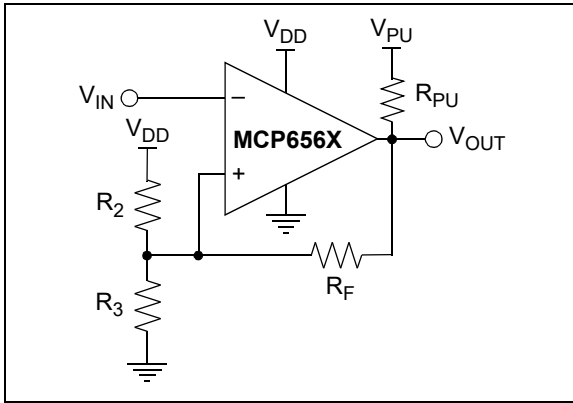
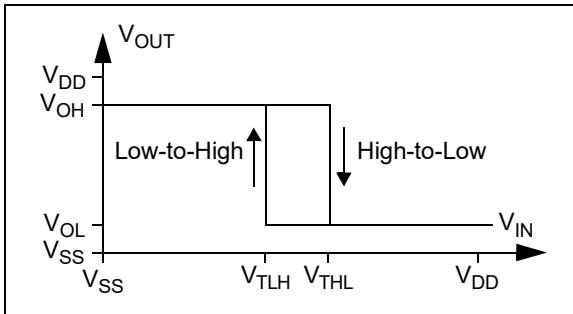
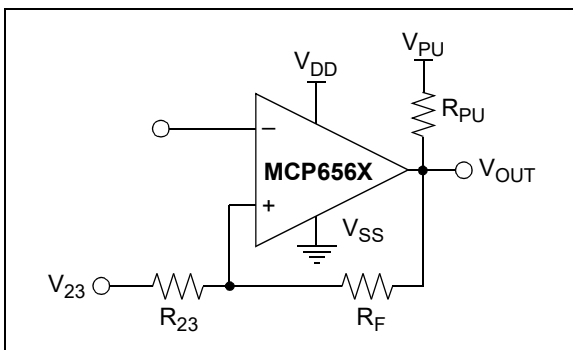

FIGURE 4-6: Inverting Circuit with Hysteresis.
FIGURE 4-7: Hysteresis Diagram for the Inverting Circuit.
FIGURE 4-8: Thevenin Equivalent Circuit.
Figure 4-6 shows an inverting circuit for single supply using three resistors. The resulting hysteresis diagram is shown in Figure 4-7.
In order to determine the trip voltages (V_{THL} and V_{TLH}) for the circuit shown in Figure 4-6, R_2 and R_3 can be simplified to the Thevenin equivalent circuit with respect to V_{DD} , as shown in Figure 4-8.
1. Inverting Configuration (Figures 4-6 and 4-9):